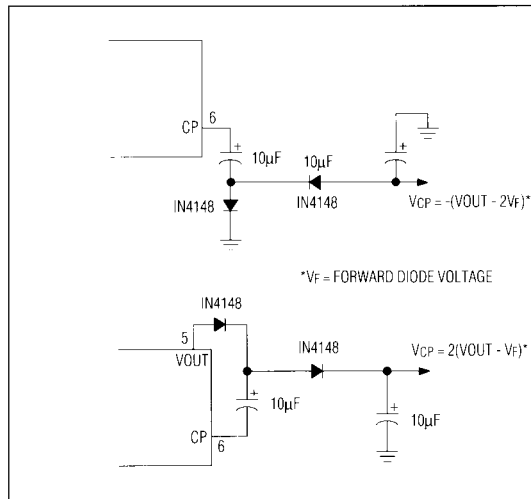

Figure 3. Using the Charge Pump (CP) output as a voltage inverter and/or doubler. Both circuits can be used together.
The Charge Pump (CP) output is a low impedance buffer which swings from ground to VOUT at the oscillator frequency. Two external capacitors and diodes can be connected, as shown in Figure 3, to generate a negative output voltage of -(VOUT - 1.2V) or a positive output of 2(VOUT - 1.2V). 1.2V is the forward drop of 2 silicon diodes. Both circuits can be used at once if desired. With 10µF capacitors, the output impedance of VCP is about 30Ω. If space is critical, the capacitors can be reduced, but with a slight increase in output impedance and VCP output ripple.